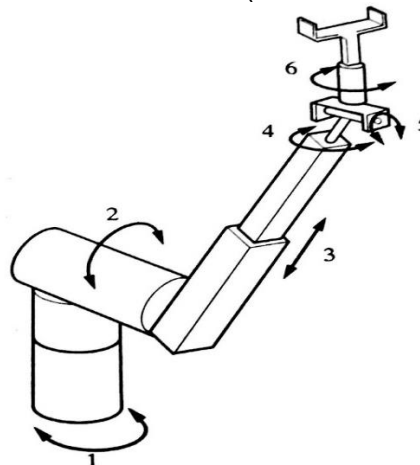

Figure Q.2B
- 2B. Calculate the D-H Table for the Stanford arm as shown in figure Q.2B and derive the forward kinematics for the same. (Assume various parameters). 06